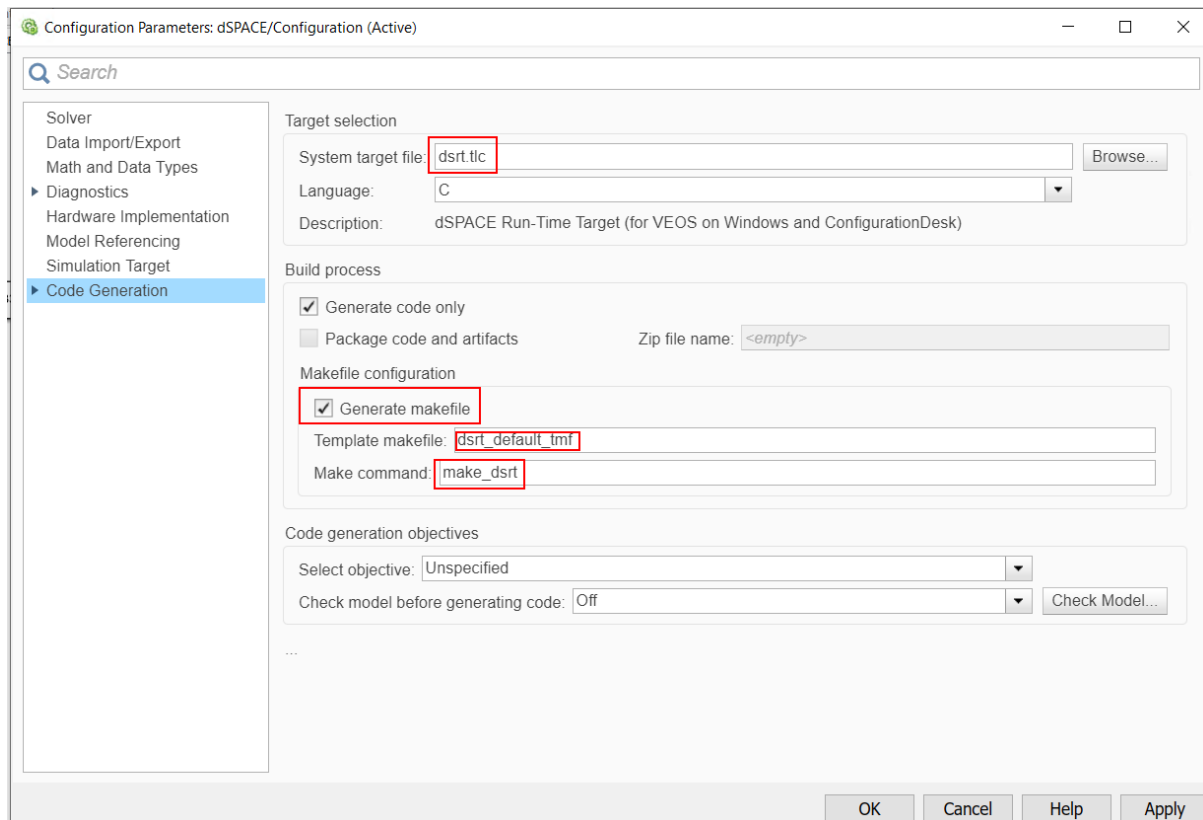

Figure 13.38: Set the Simulink code generation options.
- 9) In the "Code Generation" tab, set the options (see Figure 13.38):